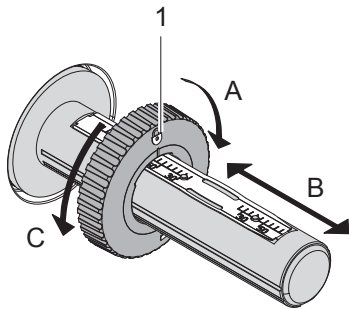

Figure 11 Guide Adjustment
3. Set guide (1) on the ribbon supply hub to the correct transfer ribbon width (Figure 11):
- Hold the hub and unlock the guide (1) by turning it in direction A.
4. Slide transfer ribbon roll (5) onto the ribbon supply hub (3) until it reaches the guide (1) so that the ink coating of the ribbon faces downward when being unwound.